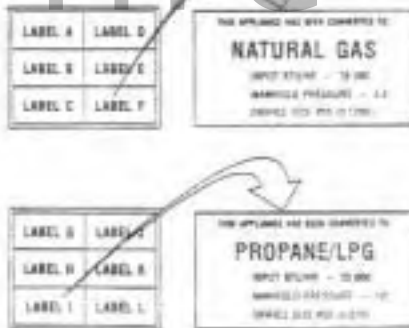

Figure 55
**Step 9.** Attach conversion kit label to the rating plate on the appliance. Label F for units converted to natural gas or Label I for units converted to propane (Figure 55).